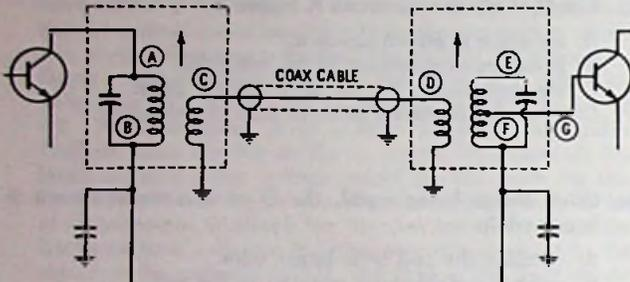

Fig. 14-21. Circuit for Questions 27, 28, and 29.
27. In Fig. 14-21, the coupling circuit is known as
28. In Fig. 14-21, the low impedance circuits are between
- A. (A) and (B), (E) and (F)
- B. (C) and ground, (D) and ground, (G) and (F)
- C. (C) and (F) only.
- D. (C) and ground, (D) and ground, only.
29. The circuit in Fig. 14-21 is more likely to be used when the signal